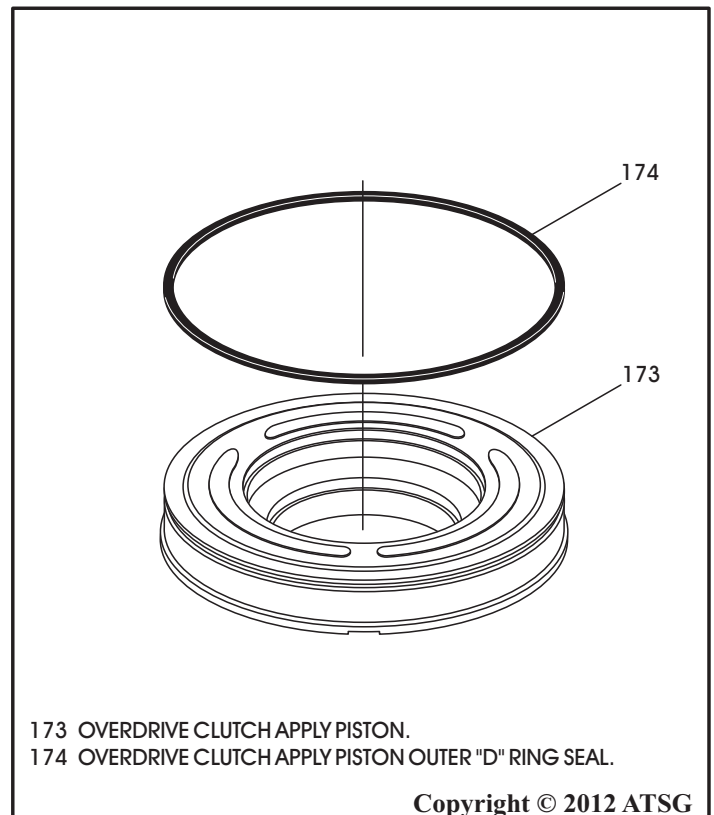

Figure 118
7. Install new outer "D" ring seal onto overdrive clutch apply piston, as shown in Figure 118, and lube with a small amount of Trans-Jel®.